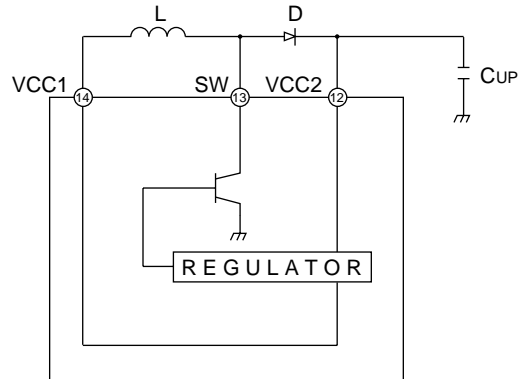

Fig. 15
By using the circuit shown in Fig. 15, this IC generates a voltage 6.5V (typ.) higher than the VCC1 input voltage at the VCC2 pin. This circuit allows the IC to drive MOSFET gates directly. With this circuit, the IC can drive a low-level side N-channel MOSFET at 3.6 to 18V as VCC1 (not possible with conventional ICs). In addition, an N-channel MOSFET can be used on the high-level side of a buck chopper. In Fig. 15, the inductor (L) is about 100μH or more and the capacitor (Cup) should be greater than about 0.1μF.